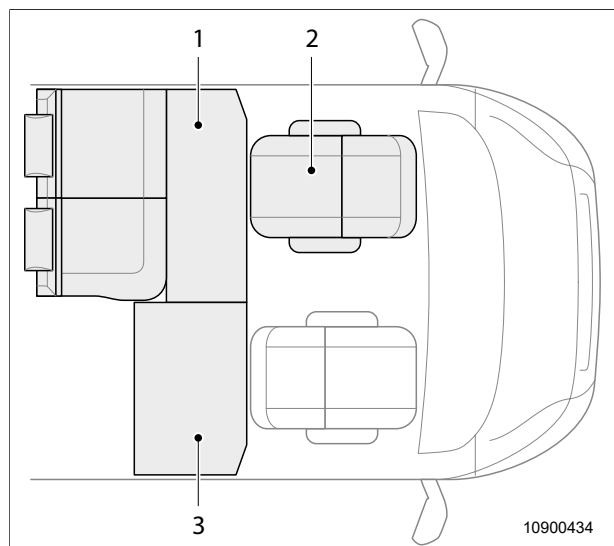

Fig. 30 Converting the seating group into a spare bed 2
1. Turn the driver's seat (Fig. 30, item 2). The backrest should face the windscreen.
2. Push the driver's seat (Fig. 30, item 2) in the direction of the steering wheel until the stop is reached.
11. Place cushions (Fig. 30, item 1 and 3) on the table and base frame.